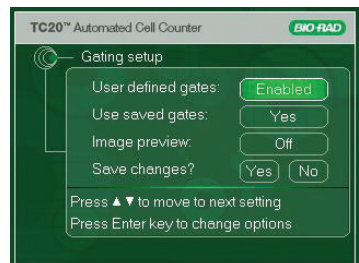
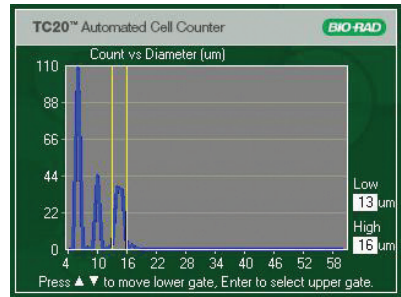

Fig. 7. Setting up gating.
Fig. 13. Counting samples with multiple cell populations.
- Press the **down** arrow key to go to **Gating setup** (Figure 7) from the Home screen, and press **Enter**.
When counting samples with multiple cell populations that vary greatly in size (for example, fibroblasts with lymphocyte background) enable the **User defined gates** (Figure 7). A histogram (Figure 13) will be displayed at the beginning of the cell count; you can adjust the size gates to select the population of interest.